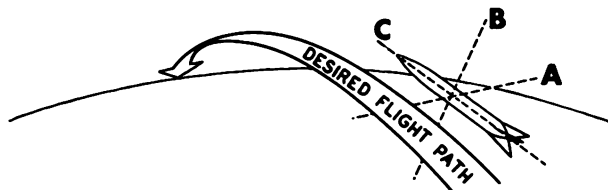

Figure 3M.
The missile shown in figure 3M has an inertial guidance system that includes three mutually perpendicular double-integrating accelerometers. Accelerometer A is mounted with its sensitive axis parallel to the direction labeled A. Accelerometer B is mounted with its sensitive axis parallel to the direction labeled B. Accelerometer C is mounted with its sensitive axis parallel to the direction labeled C.
63. From which of the following signals does the guidance system of the missile shown in figure 3M determine the distance traveled in range?
64. Which of the accelerometers mounted in the missile shown in figure 3M could be replaced by a barometric altimeter?
65. How must accelerometers A and C be mounted in the missile shown in figure 3M if they are to function properly?